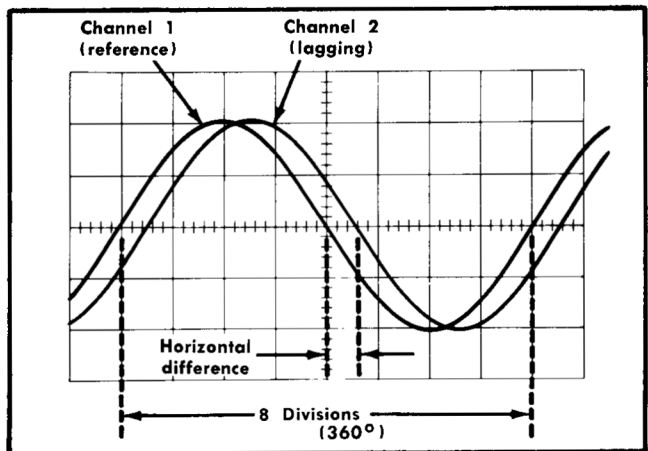
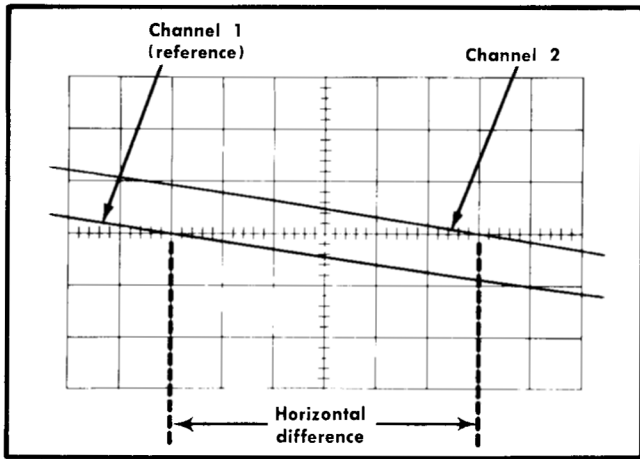

Fig. 2-28. Measuring phase difference.
Fig. 2-29. High resolution phase-difference measurement with increased sweep rate.
10. Turn the A VARIABLE control until one cycle of the reference signal (Channel 1) occupies exactly eight divisions between the first and ninth graticule lines (see Fig. 2-28). Each division of the graticule represents 45° of the cycle (360° ÷ 8 divisions = 45°/division). The sweep rate can be stated in terms of degrees as 45°/division.
Example. Assume a horizontal difference of 0.6 divisions with a sweep rate of 45°/division as shown in Fig. 2-28.
Example. If the sweep rate were increased 10 times with the magnifier, the magnified sweep rate would be $45^\circ \div 10 = 4.5^\circ/\text{division}$. Fig. 2-29 shows the same signals as used in Fig. 2-28 but with the MAG switch set to $\times 10$. With a horizontal difference of 6 divisions, the phase difference is:
2. Connect a signal similar to the unwanted portion of the Channel 1 signal to the INPUT CH 2 connector. For example, in Fig. 2-28 a line frequency signal is connected to Channel 2 to cancel out the line-frequency component of the Channel 1 signal.